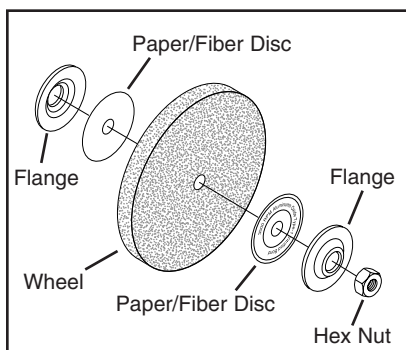

Figure 8. Wheel mounting order.
5. Mount the new wheel in the reverse order that you removed it or as shown in **Figure 8**. Always make certain there are paper or fiber discs between the wheel flanges and the wheel itself. Tighten the nut snugly but **DO NOT** over-tighten. Over-tightening can crack a grinding wheel.